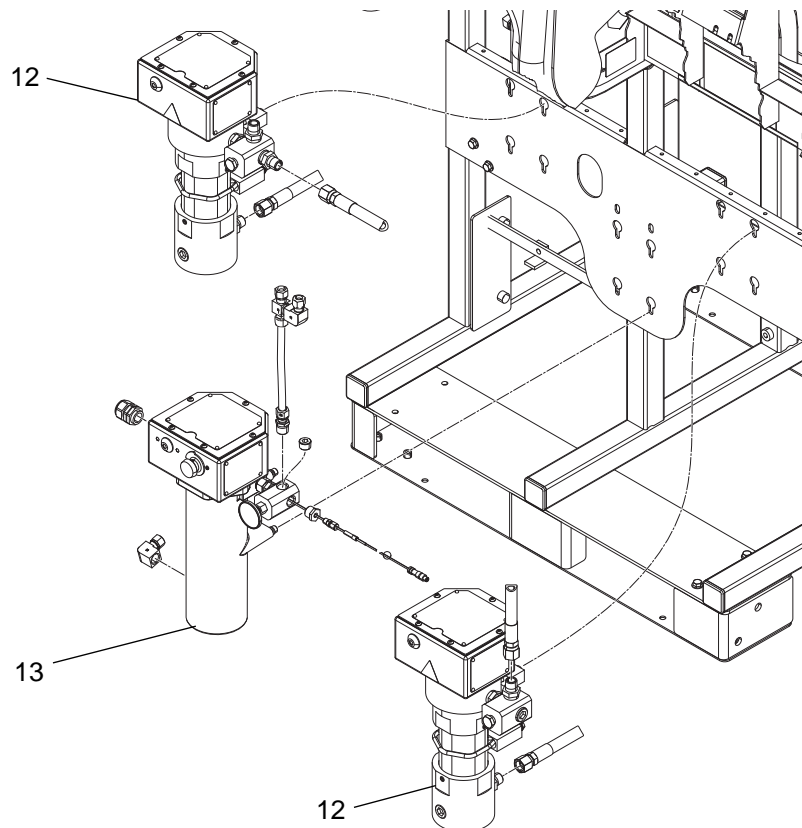

FIG. 8: Heaters on System Module
5. *System Module Heaters:* See FIG. 8. Loosen four mounting screws, lock washers, and plain washers on back of heater (12 or 13) that secure it to the system frame. Slide heater up and remove from mounting plate.
6. *Feed Module Heaters:* See page 57. Remove 2 screws (224) then remove heater (226) from feed module frame.